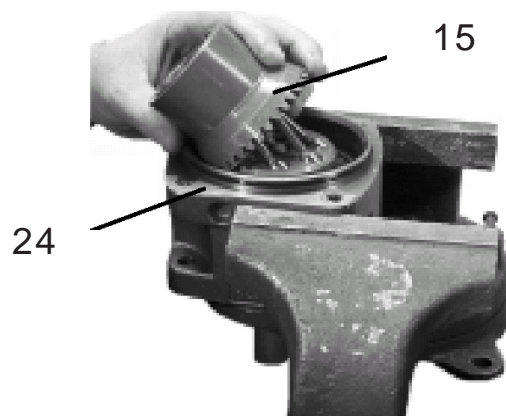

Figure 4
**3. Remove Cylinder Barrel.** Remove the Shim (item 24) and set it aside. Lift the Cylinder Barrel up and out (See Figure 4), This will leave the barrel support components (item 16) sticking up out of the shaft. Support components (item 16) are an assembly of four parts. The pistons (item 17) will also be sticking up. Make certain all the removed components are laid in a clean area.